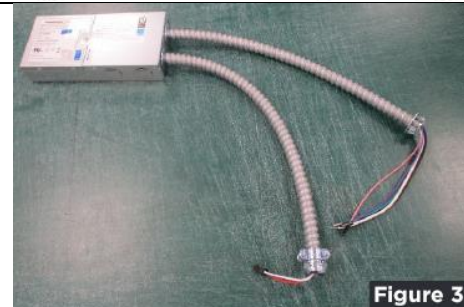
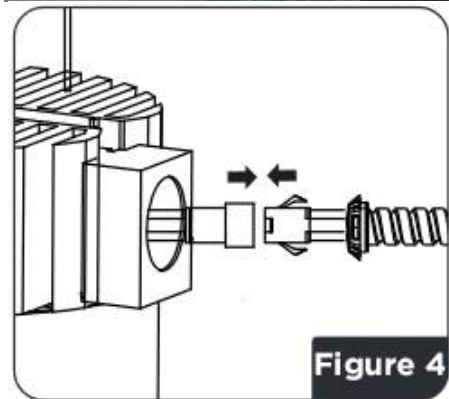

Figure 3
Figure 4
6. PLT-90326: The 40-watt driver contains two whips (Figure 3). Plug the black, white, and red wires of the driver whip into the connection port inside the hole on the light engine (Figure 4). Push the whip into the hole on the light engine until it engages.
PLT-90327: The 80-watt driver contains two whips (Figure 3). Plug the black and red wires of the driver whip into the connection port inside the hole on the light engine. Push the whip into the hole on the light engine until it engages.